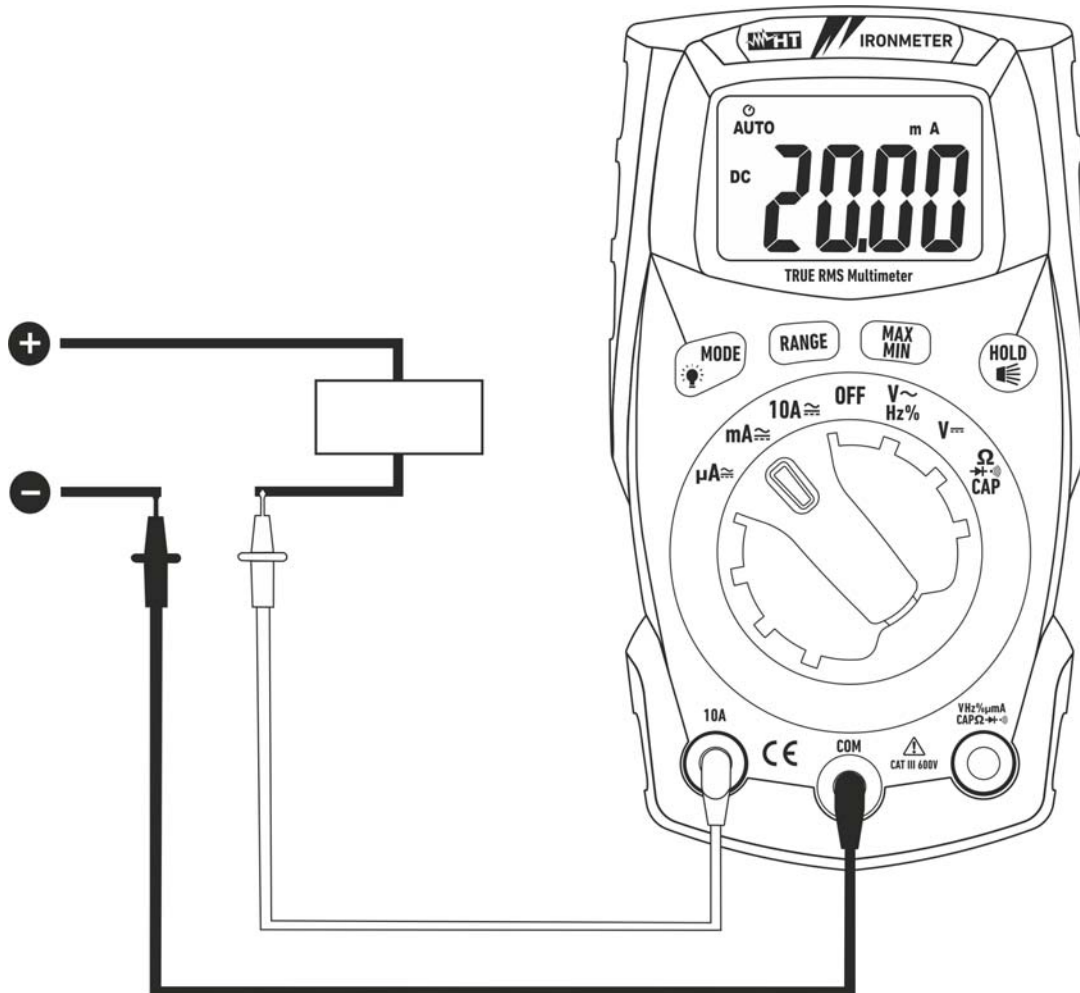

Fig. 8: Use of the instrument for DC current measurement
5. Connect the red lead and the black lead in series to the circuit whose current you want to measure, respecting polarity and current direction (see Fig. 8).
8. When symbol "-" appears on the instrument's display, it means that current has the opposite direction with respect to the connection in Fig. 8.